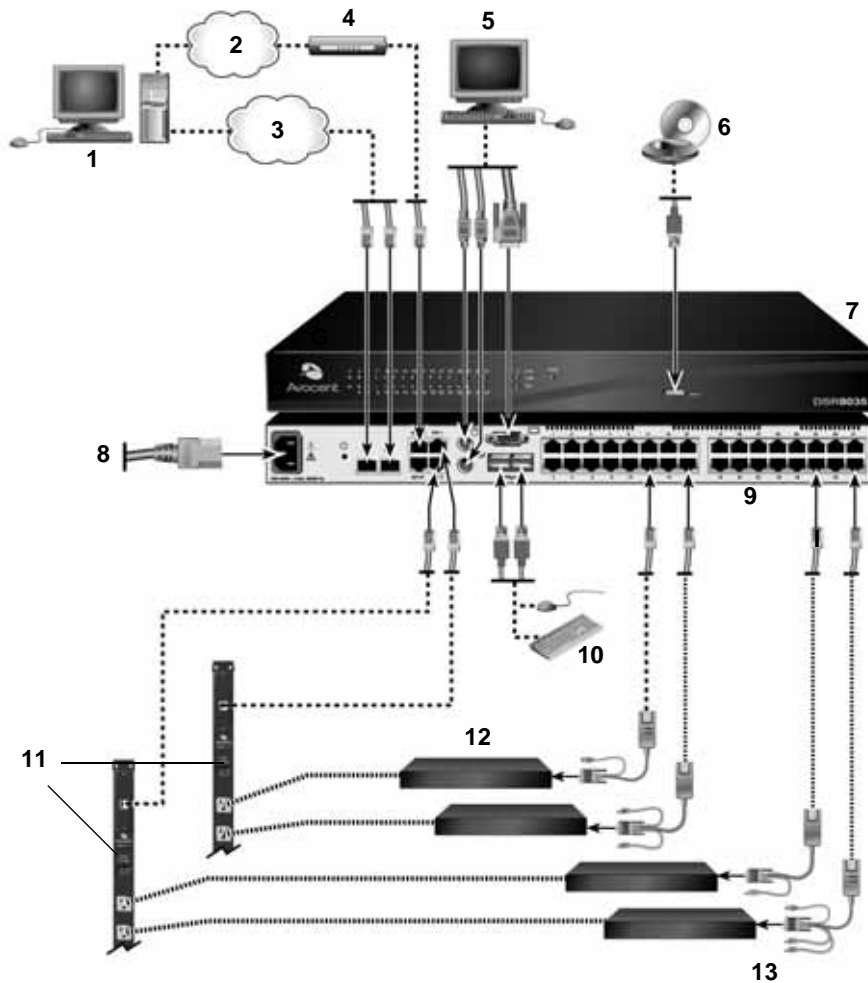

Figure 2.1: Basic DSR Switch Configuration (DSR8035 Switch Shown)
Figure 2.1 illustrates a basic configuration for the DSR switch, using the DSR8035 model for the example. Descriptions follow in Table 2.1.
**Table 2.1: Descriptions for Figure 2.1**